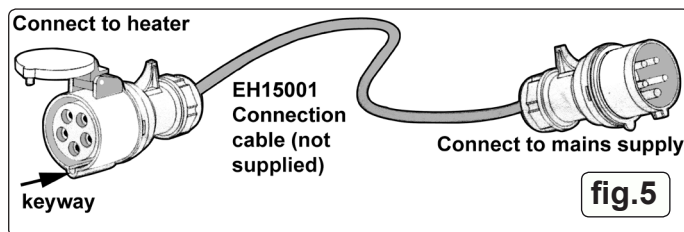

fig.5
- 4.4.1. The EH15001 heater is supplied with a protected 5 pin connector mounted on the side of the control housing. In order to connect to the mains it will be necessary to have the extension cable shown in fig.5 made up by a qualified electrician. (This connector is not supplied with the machine.) The cable should be no shorter than 1.8mtr and no longer than 3.0mtr.